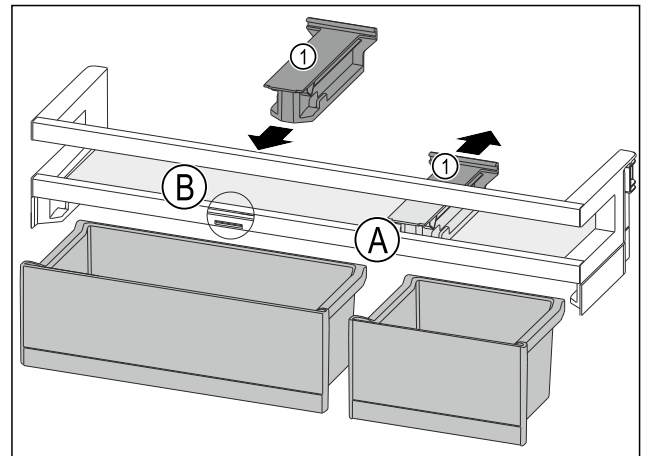

Fig. 116
- ▶ Take off the holding part Fig. 116 (1) in position Fig. 116 (A) backwards.
- ▶ Insert the holding part Fig. 116 (1) in position Fig. 116 (B).